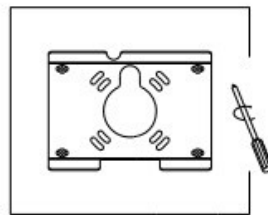

Figure 2-3
3.Align mounting bracket with hole; tighten screws. (Figure 2-3)